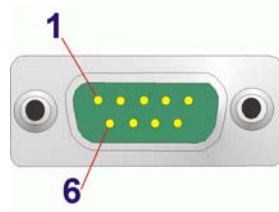

Figure 3-24: COM1 Pinout Locations
- CN Pinouts:** See **Table 3-26** and **Figure 3-24**